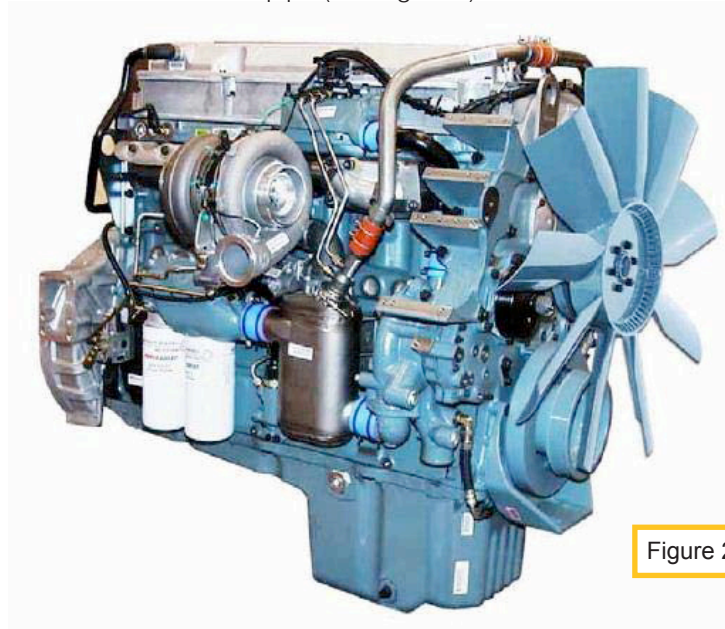

Figure 2
- Loosen both clamps on the EGR cooler outlet pipe where connected on the EGR cooler outlet pipe (see Figure 2). Remove the EGR outlet cooler pipe (see Figure 2).